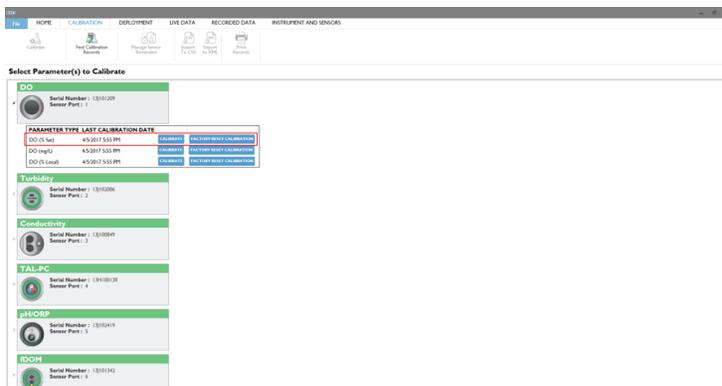

Figure 107. Select ODO % Sat.
**STEP 2** | In the Kor software, select the port with the DO sensor probe. Under the Calibration Menu, select **ODO % sat** unit (Figure 107).
Wait for data to become stable, then click **“Apply”** (**Figure 107**).